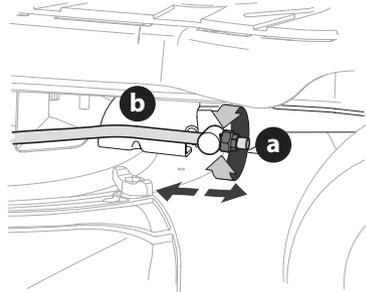

Figure 16
3. Locate the flange lock nut (a) on the front end of the PTO lift rod (b) (Figure 16).